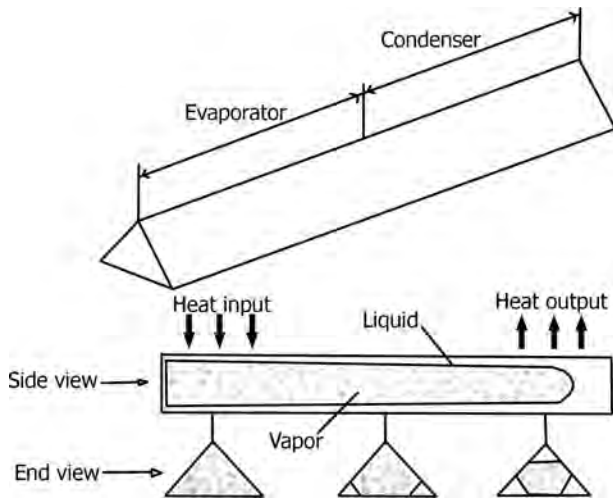

FIGURE 13.21 Micro-heat pipe operation.
- *Micro-Heat Pipes*: Small heat pipes that are noncircular and use angled corners as liquid arteries. Used in cooling semiconductors, laser diodes, photovoltaic cells, medical devices, etc. Figure 13.21 illustrates a typical micro-heat pipe.